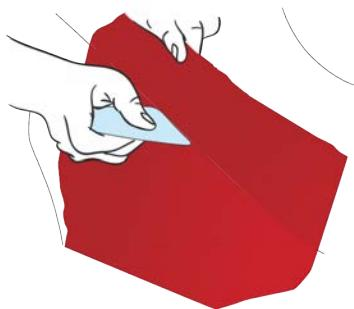

Figure 26
- › Trace the contours of the area with your finger. Lift the vinyl of the adjacent part and drag it into the hollow using a squeegee so as to mark the seal edge. (FIG. 26)